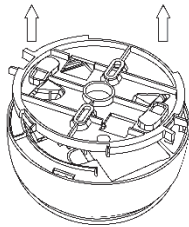

Figure 1
2. Twist and remove the plastic mounting bracket from the sounder (see Figure 1).
1. Remove the sounder from the plastic mounting bracket (*see Figure 1*).